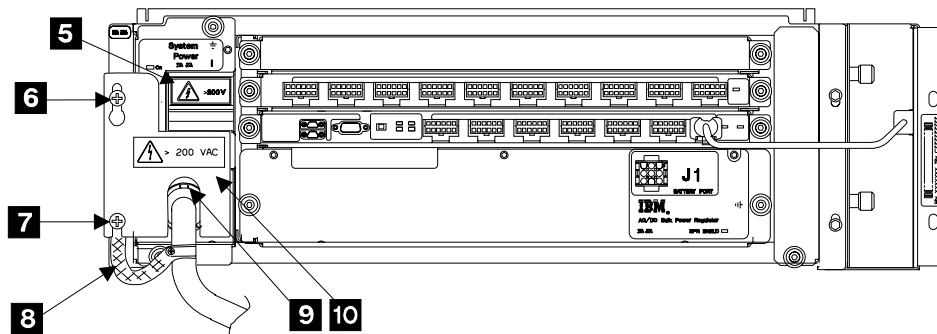

Figure 62. Bulk Power Supply Locations (t0071331)
3. On the bulk power supply with the mainline power cable you are removing, press the System Power circuit breaker (CB), **5** in Figure 62 on page 80, to Off (O, down).
- a. Set BPS System Power circuit breaker (CB) **5**, in Figure 62, to On (|, up).